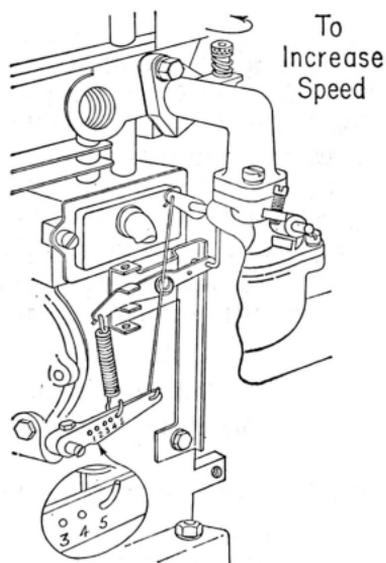

Fig. 7
6.06 A mechanical governor is supplied on the engines used on the portable generators and Gen-Air units. This type of governor is illustrated in Fig. 7.